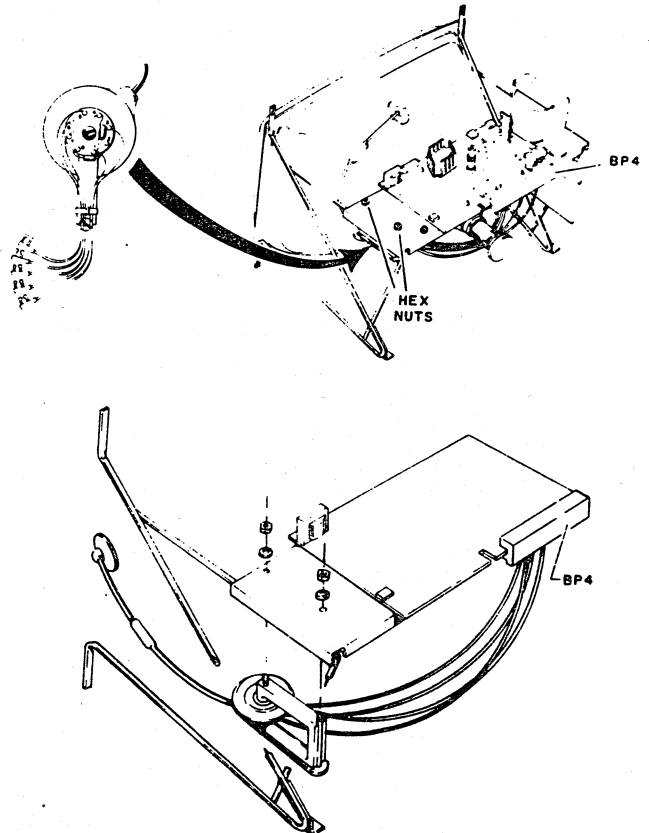

Figure 6-4. High-Voltage Transformer Installation
4. Remove the primary wires of the transformer from connector BP4. Do this by inserting the end of a paper clip into the top of the connector between the flag-type terminal and insulation to release each wire. Tag/mark the wires according to the BP4 numbers (figure 6-4).
6. Connect the transformer to the chassis as shown in figure 6-4.